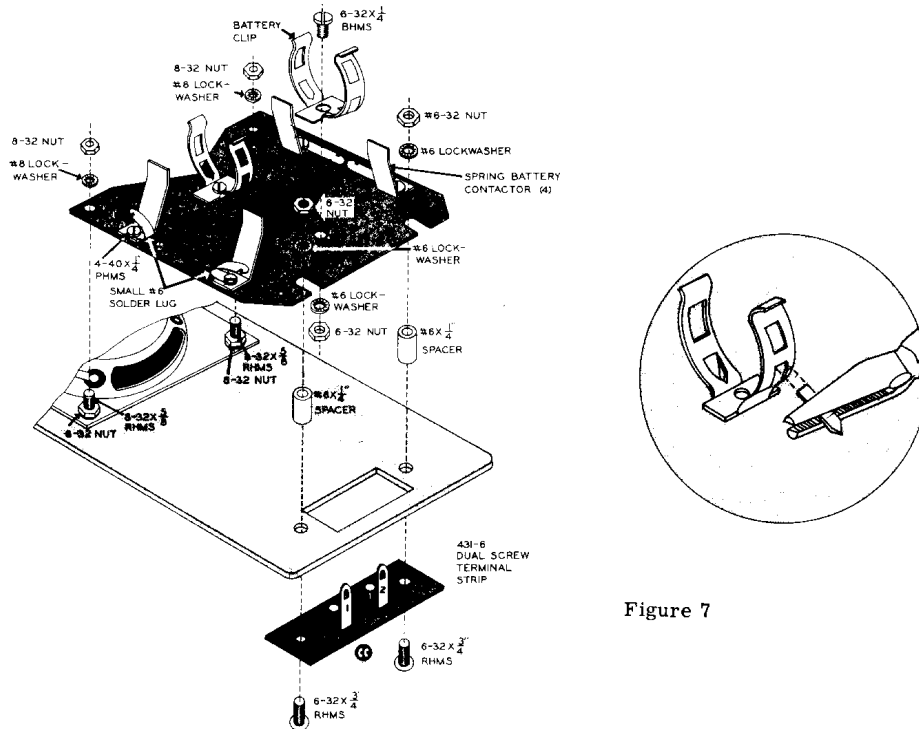

Figure 7
- ( ) Break off the two points on each battery holder clip as shown in Figure 7.
- ( ) Mount the two clips in their positions on the phenolic board as shown in Figure 7. Use a 6-32 x 1/4" BHMS through the clip, through the phenolic board, a #6 lockwasher and secure with a 6-32 nut.
- ( ) Insert the two 6-32 x 3/4" RHMS through the dual screw terminal strip (terminal lugs face outward), then through the panel and the 1/4" spacers. While holding these screws in position, place the phenolic board assembly over the four exposed screw ends. Refer to Figure 7. Place a #6 lockwasher over each 6-32 screw and secure with 6-32 nuts. On the two 8-32 screws on the speaker, use #8 lockwashers and secure with 8-32 nuts.